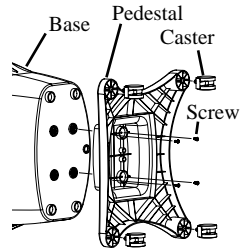

Fig. 1
**CAUTION: Do not damage hose connecting pump to media frame.** Cut the cable ties holding pedestal to frame of unit and remove pedestal. Remove the casters from the underside of the pedestal. To install the pedestal, turn the unit on it's side. Line up the bosses on the pedestal to the bosses on the base of the unit (see fig. 1). Use the four provided screws to attach the pedestal to the base of unit. Press the stem casters into each corner hole of pedestal, installing the 2 locking casters on the front and the 2 non-locking on the back side.